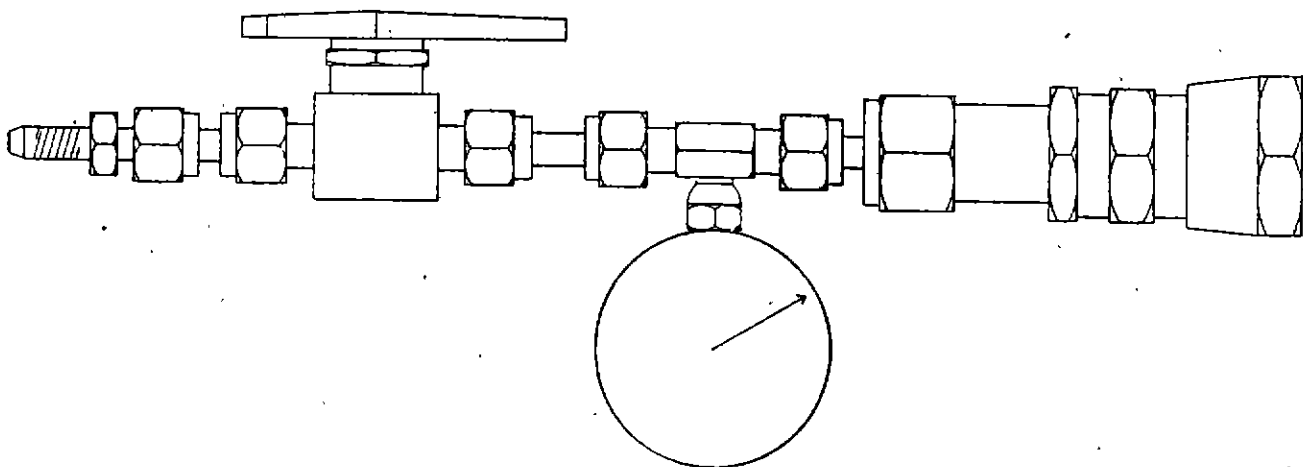

fig 5.2
2. Connect purging manifolds (fig. 5.2) to supply and return aeroquip fittings of receiver.